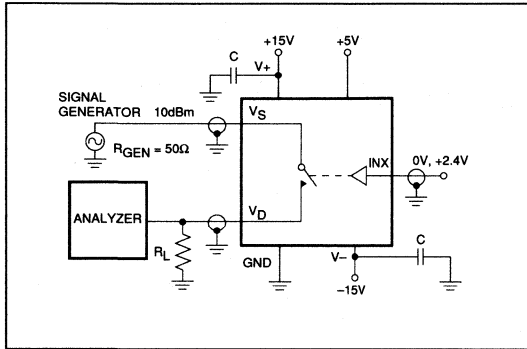

Figure 3. Off-Isolation Test Circuit
**Note 4.** See Figure 3. Off Isolation = 20log10 VD/VS, VD = output, VS = input to off switch.